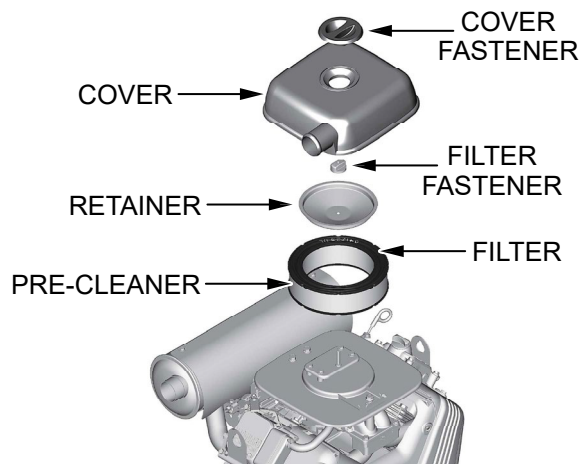

Figure 29. Engine Air Cleaner
The engine air cleaner is equipped with a **paper air filter** (Figure 29) and a **foam pre-cleaner**. Remove the **air cleaner cover** and inspect the filter elements. Clean or replace dirty filter elements. **ALWAYS** replace damaged filter elements.
2. Remove the **air cleaner cover fastener** (Figure 29).
3. Remove the **air cleaner cover** (Figure 29).
4. Remove the **filter fastener** and **retainer** (Figure 29).
5. Remove the **air filter** (Figure 29).
6. Remove the **pre-cleaner** (Figure 29) from the air filter.